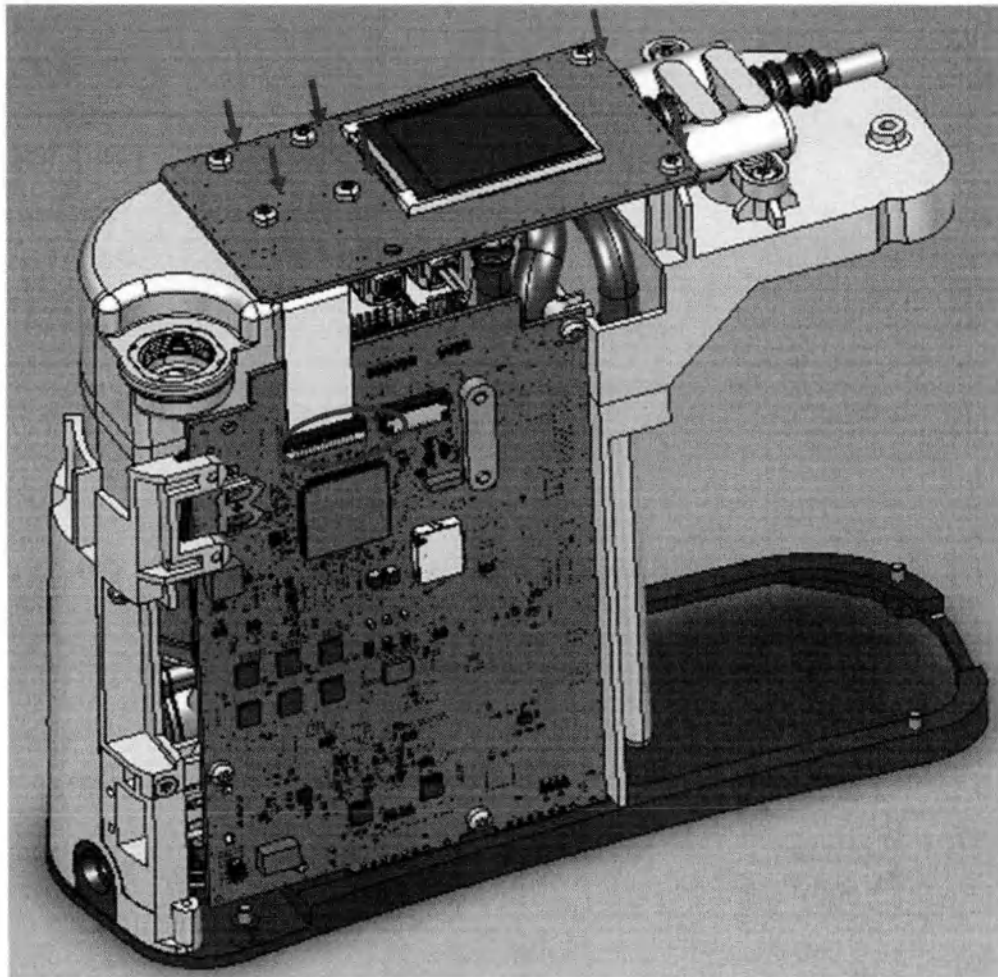

Figure 19: Release the Flex Cables by opening the tabs on the Motherboard.
1. Pull the tab on the Motherboard, P5 to release the ribbon cables attached to the LCD Display and the Sensor Block, remove the 6 screws (3 x 8) as shown in Figure 19.